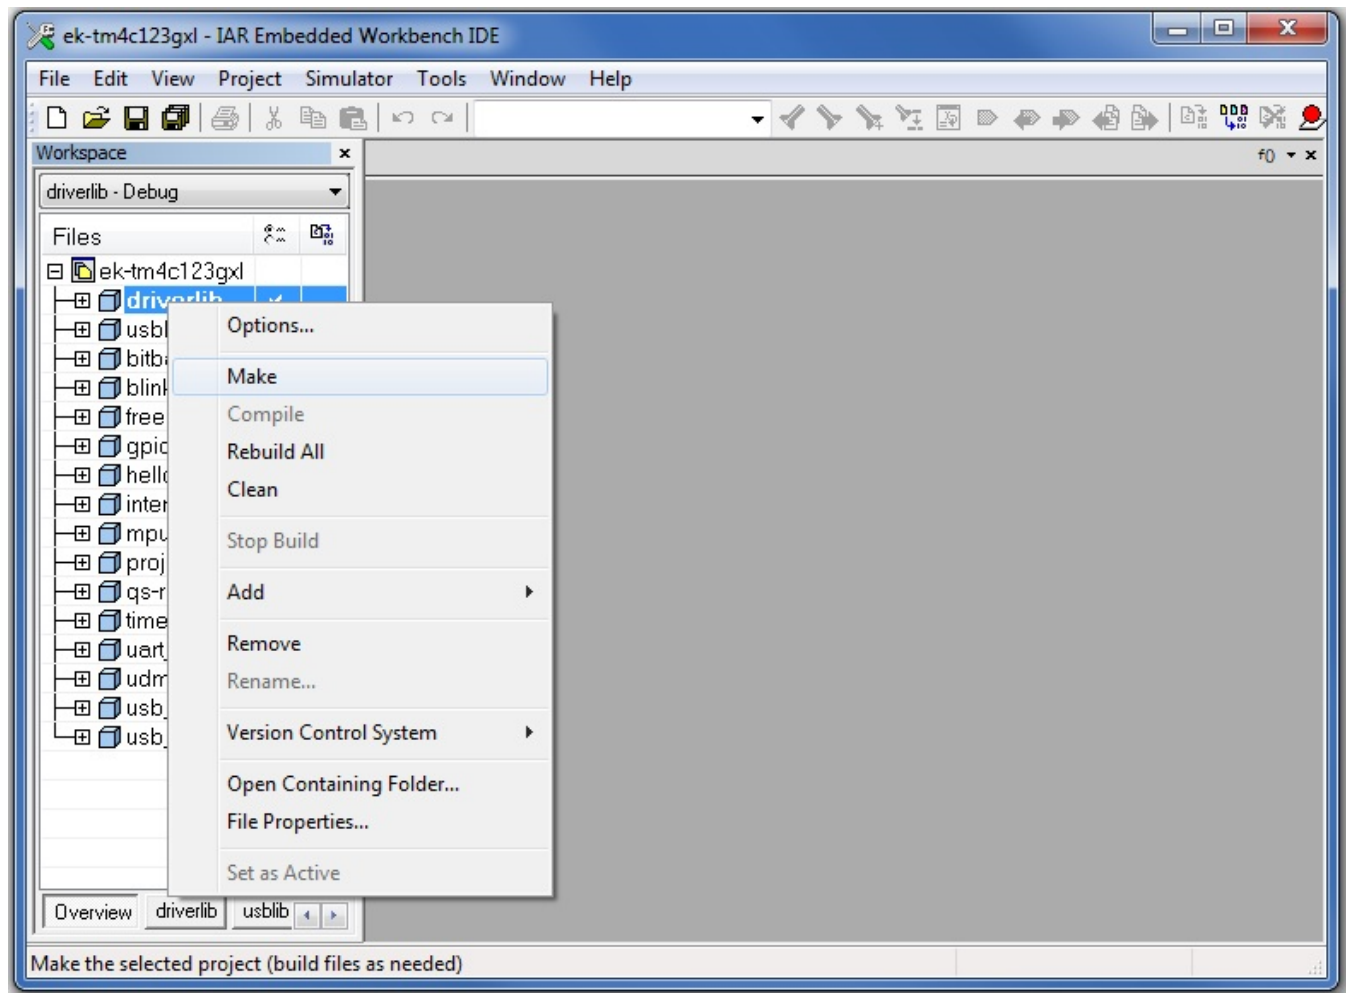

Figure 2.
1. Right-click the driverlib project and select Make (see Figure 2).